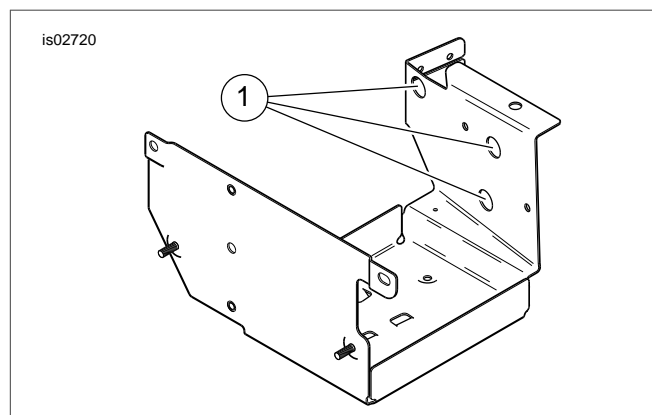

Figure 1. Battery Box (right side view)
4. See Figure 1. In battery box, identify the location of the three mounting holes (on left side of panel) for mounting the cruise control module.